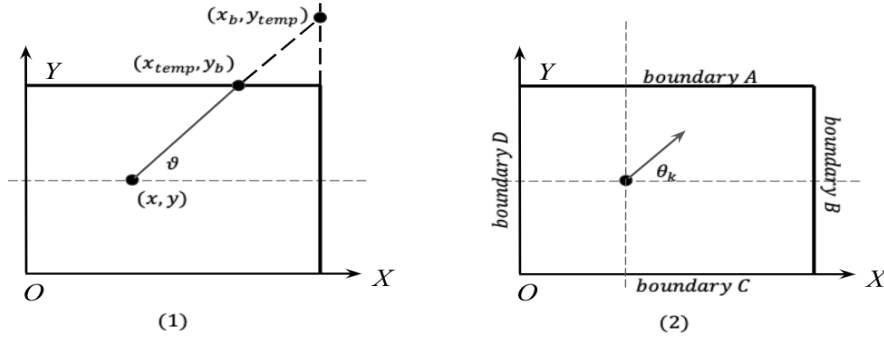

Figure 2: Model Derivation of the Laser Range Sensor
We have two laser range sensors to get the distance to a wall in a straight line in front of the robot and the distance to a wall is a straight line to the right of the robot. At first, we consider a straight line with four boundaries. The problem we need to figure out is that what is the intersection point between the line and boundaries. As shown in Figure 2 (1), we need to decide the the intersection point is on the vertical boundary ($x = L$) or the horizontal boundary ($y = W$). The expression of the line is:
Then, we can decide which point to choose. For example in the Figure 2, we should choose (x_{temp}, y_b) because the point (x_b, y_{temp}) is already out of the range. The python implementation is as follows:
Based on this function, now we need to find the reflection point of a laser given its starting point and direction. As shown in Figure 2 (2), we can see there are 4 boundaries A, B, C and D. And based on the state of the robot, we can divide the environment into 4 areas: